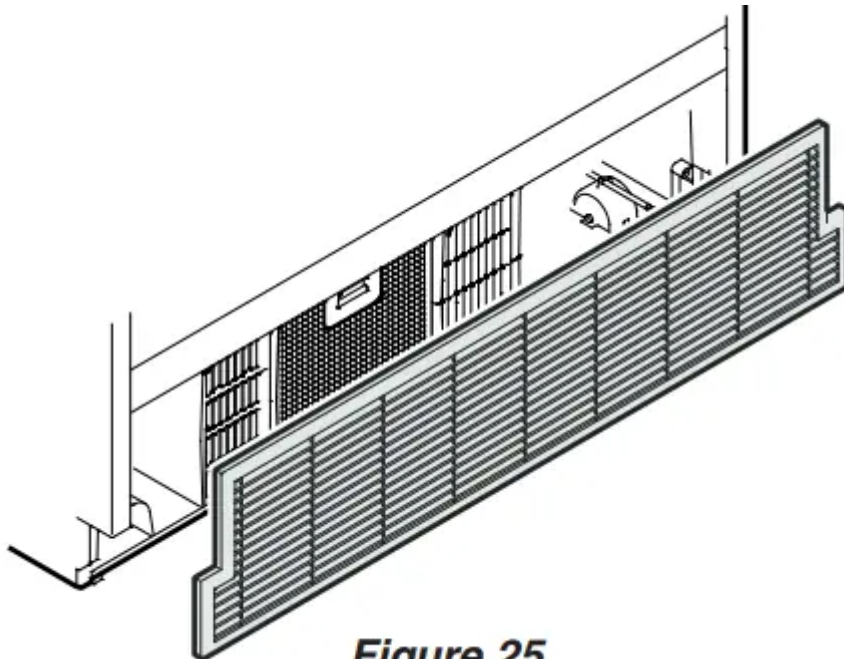

Figure 25
- Open the bottom freezer drawer and remove the ventilation grille by pulling forwards - Figure 25.